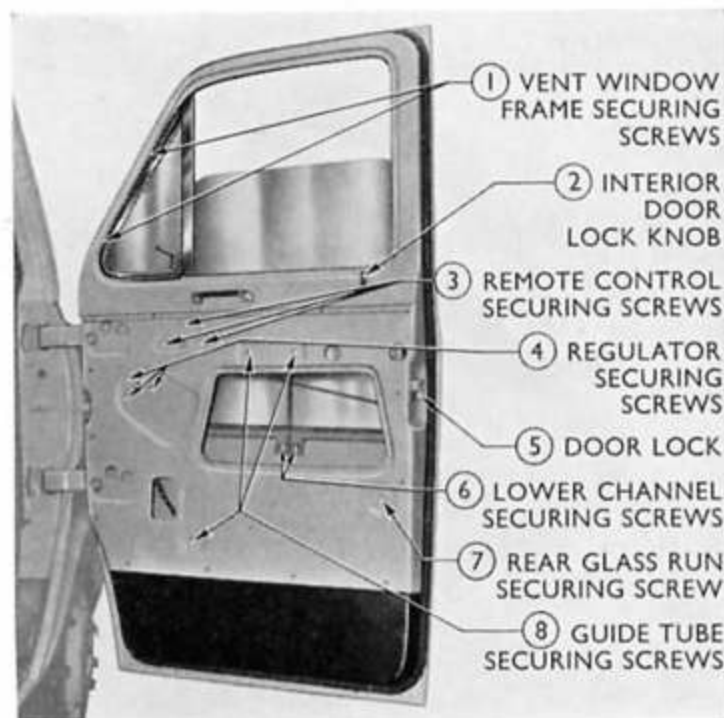

Fig. 5
2. Remove three crosshead screws, spring and cup washers securing the remote control mechanism to the door inner panel (see Fig. 5).
4. Unscrew the door lock interior control knob (see Fig. 5). (Early models only.)
6. Unscrew and remove the three crosshead screws and shakeproof washers securing the lock mechanism to the door and disconnect the two wire control rods from the lock mechanism (see Fig. 5).
3. Open the vent window fully and remove the two self-tapping screws, securing the vent window outer frame to the door frame (see Fig. 5).
5. Support the window glass and remove the two crosshead screws, spring and flat washers securing the door glass lower channel to the window regulator connecting plate (see Fig. 5).
4. Lower the window to the bottom of the door and remove the three crosshead screws, spring and flat washers securing the remote control mechanism to the door inner panel (see Fig. 5).
5. Remove the three crosshead screws, spring and flat washers securing the flexible drive guide tube assembly to the door inner panel (see Fig. 5).